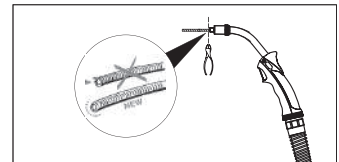

Figure 15: Cutting the Spiral Extension
- Cut the excess of the spiral from the torch head with a side chisel at the point where the gas distributor (contact nozzle holder) immediately ends as shown on the right, so that there is no gap between the spiral and the contact nozzle. File the cut point to make it blunt and burr free (Figure 15).